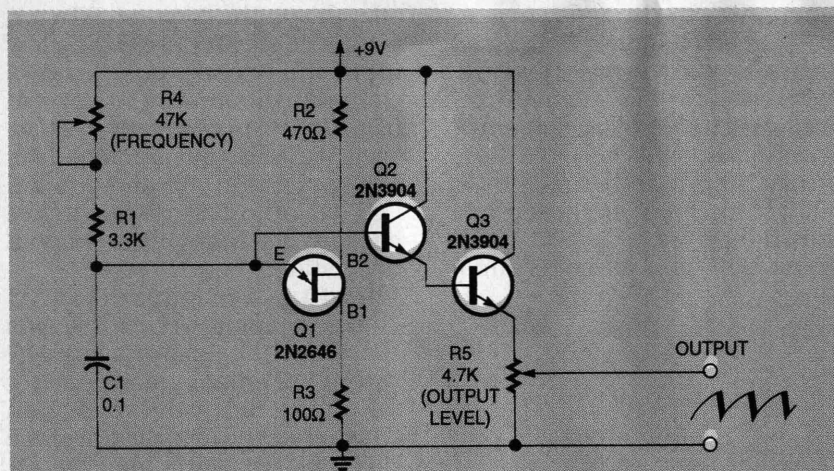
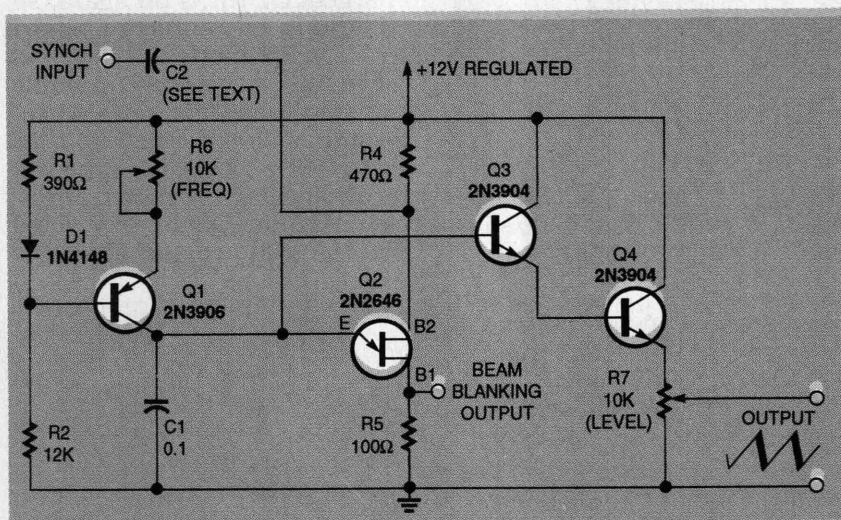

FIG. 12—A NONLINEAR SAWTOOTH GENERATOR that works over a range of 25 Hz to 3 kHz.
FIG. 13—THIS LINEAR SAWTOOTH GENERATOR can function as a oscilloscope timebase generator and can blank the CRT beam.
timer offers the best way to generate positive-going triggered sawtooth waveforms. However, if you want to generate free-running, positive-going sawtooth waveforms, this can be done with a unijunction transistor or UJT, connected in the circuit shown in Fig. 12.
transistor whose terminals are identified as *emitter* (E), *base 1* (B1), and *base 2* (B2). A UJT is connected as shown in Fig. 12 as Q1 with its B2 positive with respect to B1, and with the input applied to its emitter terminal.
In Fig. 12, capacitor C1 charges exponentially towards the positive supply voltage through trimmer potentiometer R4 and R1 until the voltage on C1 reaches the firing value of the UJT Q1. At that time, the Q1 switches on and rapidly discharges C1. As soon as C1 is discharged, Q1 turns off again, so C1 starts to recharge again through R4 and R1.
The linear sawtooth generating circuit in Fig. 12 can be modified to become an oscilloscope timebase generator. The modified circuit is shown in Fig. 13. Capacitor C1 is charged by a constant-current source. In this circuit, Q1 functions as a temperature-compensated, constant-current generator. Its current can be varied from 35 to 390 microamperes by adjusting frequency trimmer potentiometer R6.
The operating frequency of the Fig. 13 circuit can be varied from 60 to 700 Hz with R6 if all of the component values are as shown. Other frequency ranges can be obtained by substituting other values for capacitor C1. The timebase generator can be synchronised to an external signal by feeding the external signal to UJT Q2 through the sync input capacitor C2.